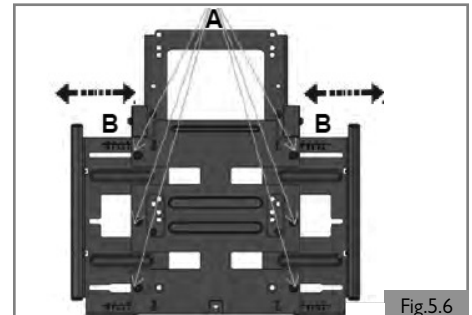
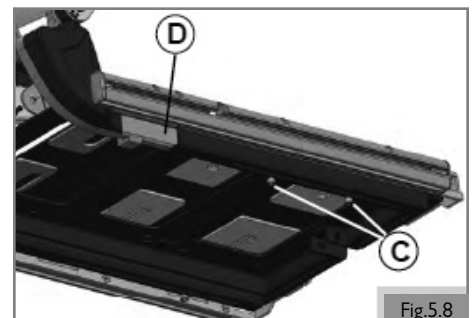

Fig.5.6
Fig.5.8
#### Seat plate width (Fig. 5.6 - Fig. 5.8)
1. Loosen (A) and (F) by one turn.
2. Adjust (B) to the desired position. (Fig. 5.6)
3. Tighten (A) and (F). See section 9 for specified torque values.